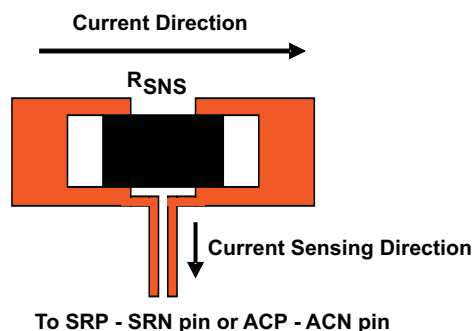

Figure 23. Sensing Resistor PCB Layout
4. The charging-current sensing resistor should be placed right next to the inductor output. Route the sense leads connected across the sensing resistor back to the IC in same layer, close to each other (minimize loop area) and do not route the sense leads through a high-current path (see Figure 23 for Kelvin connection for best current accuracy). Place the decoupling capacitor on these traces next to the IC.